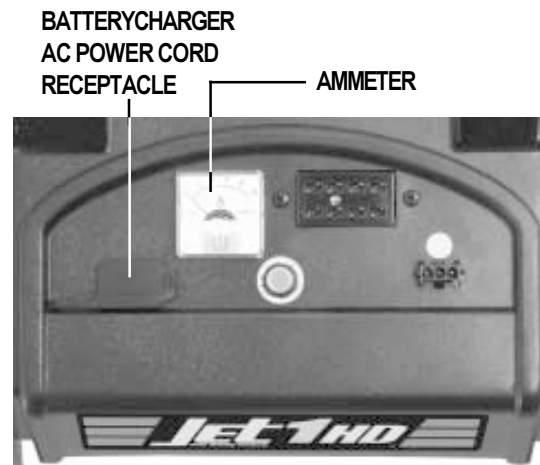

Figure 27. Electronics Tray
3. Remove the battery charger cord from the back pouch of your Jet and plug it into the battery charger AC power cord receptacle located on the electronics tray. See figure 27.